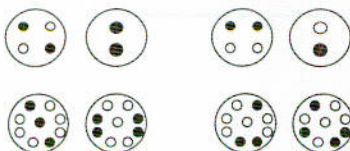

fig. 4
5.2.5 For partial loads of swing-out rotating equipment (type O-) it is advisable to distribute the tubes symmetrically also with regard to the centre of rotation (see fig. 4).